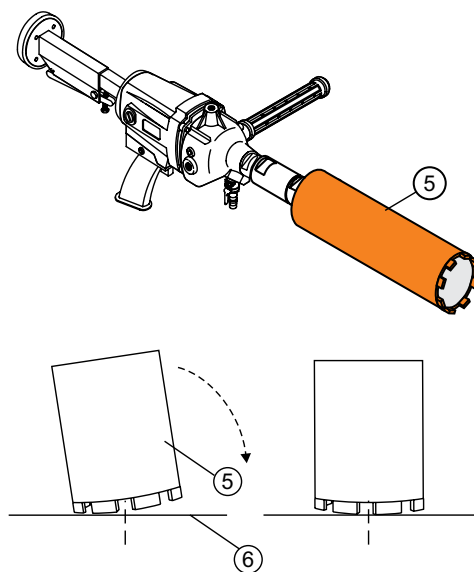

Figure 5. Drilling with a Standard Core Bit
Utilizing the proper adapter, the CDM1H will support many standard core drill bits (1" to 3" diameter cured concrete and asphalt – 1" to 6" Blockbuster Cinder Block bits). Because these types of core bits are not designed to use pilot bits, the operator will require practice and technique to ensure clean entry of the bit into the material. 'Bit chatter' can be avoided by mastering an angle-entry approach. Angle the bit (5) 10° to 15° above the surface of the material (6) and slowly introduce and rotate the bit and increase the drill RPM speed. See Figure 5.